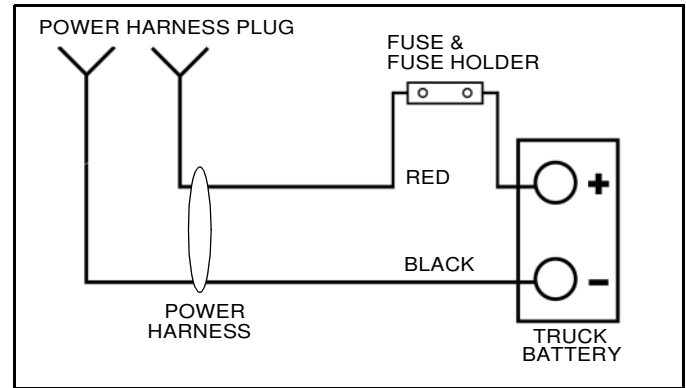

Figure 1-2
2. Mount the fuse holder near the battery using (2) #10 x 1" self-tapping screws.
3. Take the cover off of the fuse holder and remove the nuts on the studs. Place one end of the 2 ft. long power wire on one stud. (See Figure 1-2)